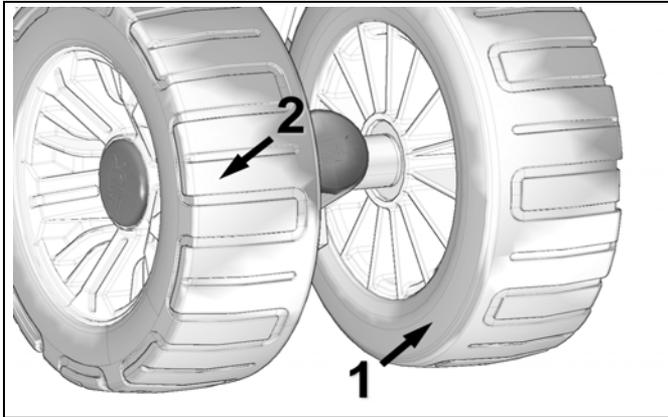

Figure 35
Verify wear on the urethane tires especially on the interior guidance strip (1) and between tire profiles (2). The wheel must be replaced if the inner surface is worn out or the tire is cracked between the tire profiles. A wheel that is excessively worn will not offer enough support for track guidance. Refer to Figure 35.